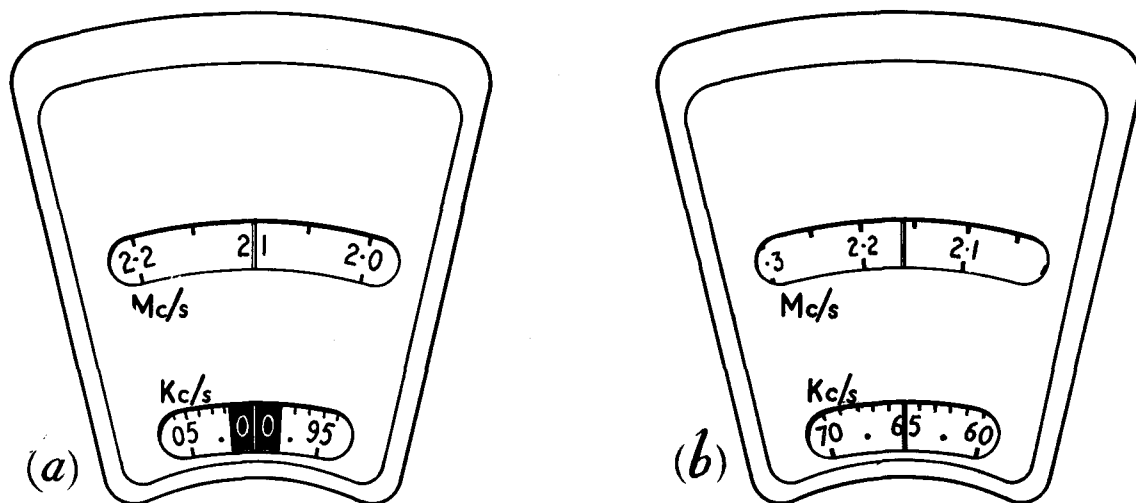

FIG. 21 EXAMPLES OF FREQUENCY SCALE READINGS
- (1) Two scales are visible in the scale window. The upper one is a slow motion dial engraved in Mc/s with tenth divisions, and the lower is a high speed kc/s scale driven directly from the tune control.
- (2) On range 1 the mask over the scales is in the lowest position to expose the Mc/s scale calibrated 2 to 4 Mc/s and the Kc/s scale calibrated from 0 to 100 kc/s. For one complete revolution of the lower scale the upper scale moves through one 100 kc/s division. The 100 kc/s crystal calibrator provides one check point for each complete revolution of the tuning control. This check point is clearly marked on the scale by the white figures '00' engraved on a black background. See fig. 21(a).
- (3) On range 2 the mask is in its central position to expose the 4-8 Mc/s scale. One revolution of the tuning control now covers 200 kc/s. There is a check point mark at every 100 kc/s.
- (4) On range 3 the mask is at the top position to expose the 8-16 Mc/s scale. One revolution of the tuning control now covers 400 kc/s. There is a check point mark at every 200 kc/s.
- (5) To read the dial accurately in kc/s, the figures showing on the Mc/s scale should be followed immediately by those showing on the kc/s scale. For example, when 2.1 is showing against the cursor line of the Mc/s scale, '00' will be showing against the cursor of the kc/s scale, the whole reading 2100 kc/s, or 2.1 Mc/s, as at fig. 21 (a).
- (6) When the Mc/s scale reading is between figures, the kc/s scale reading will be some part of the 100 kc/s. For example, the Mc/s scale reading between 2.2 and 2.1 and the kc/s scale reading 65, the total reading is 2165 kc/s, or 2.165 Mc/s, as at fig. 21 (b).